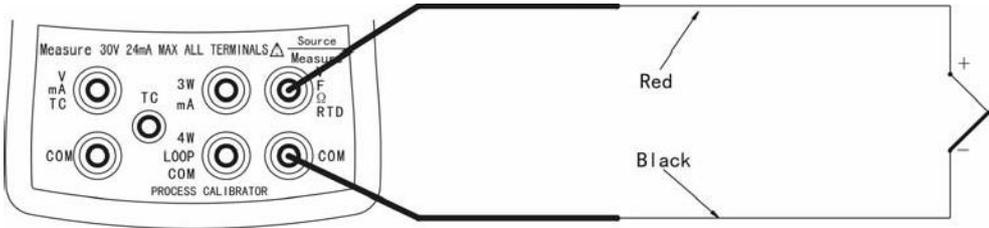

Figure5-8 Measuring Temperature with a TC
- (1) Press **SOURCE** **MEAS** until the lower display shows "measure".
- (2) Press **TC** to select the desired thermocouple type.
- (3) Connect the leads as shown in Figure5-8.